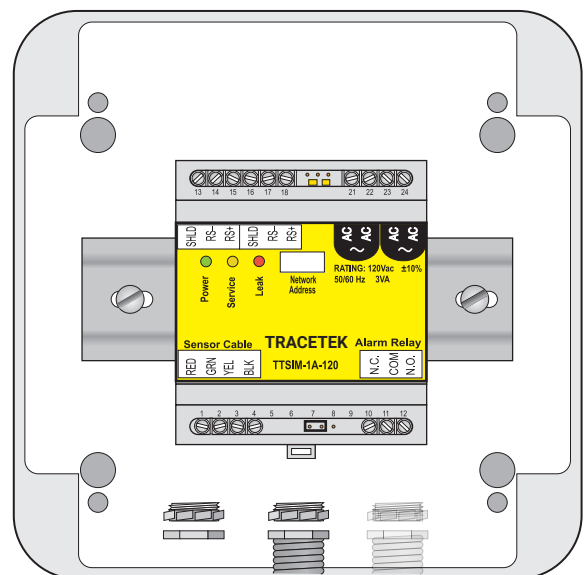

Figure 2. NEMA 4X enclosure
MOUNTING THE TTSIM-1A MODULE IN THE OPTIONAL NEMA 4X ENCLOSURE – FIGURE 2
- A typical outdoor or harsh environment installation will require three holes in the TTSIM-ENC: one for inbound power and telemetry, one for outbound power and telemetry and one for the sensor cable leader. See Figure 2.